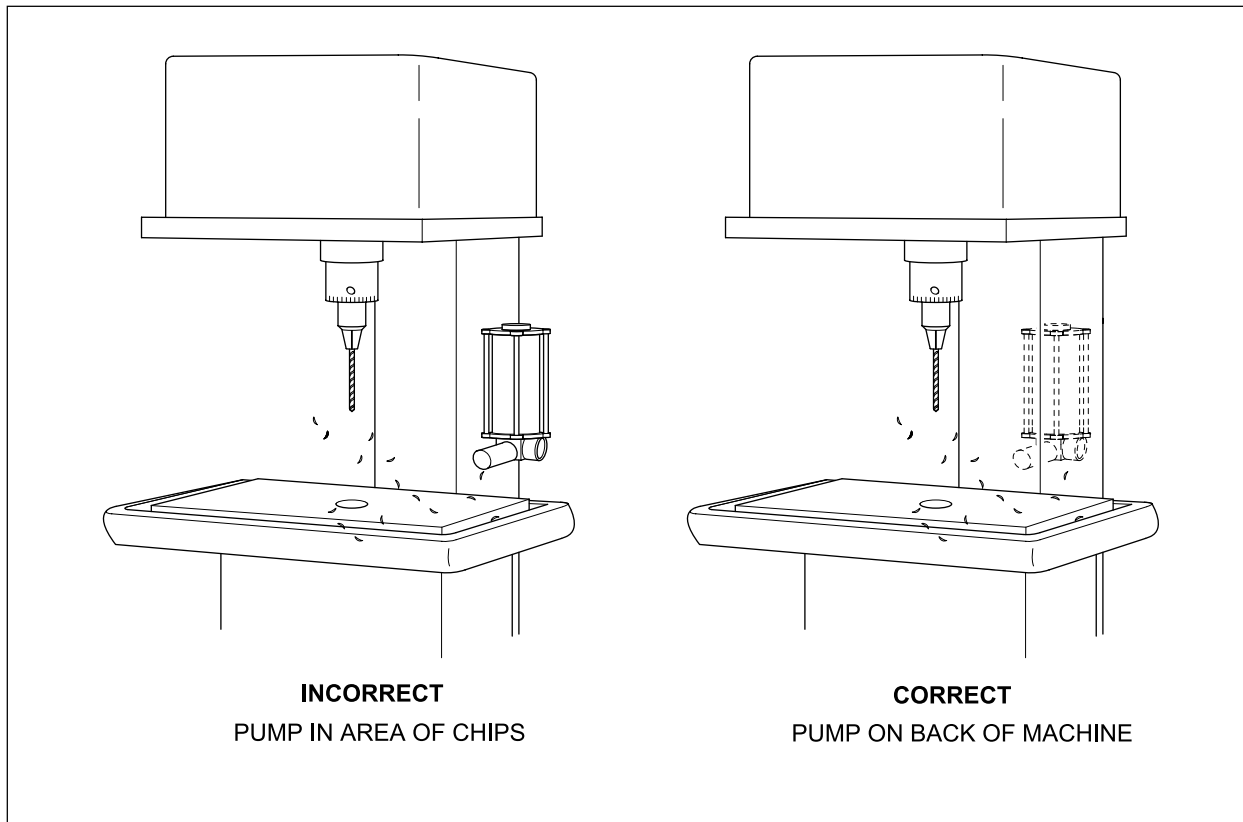

Figure 3
- Locate the pump and reservoir in an area that is not subjected to heavy traffic and/or heavy debris or by-products from the machine it is located on (see Figure 3).